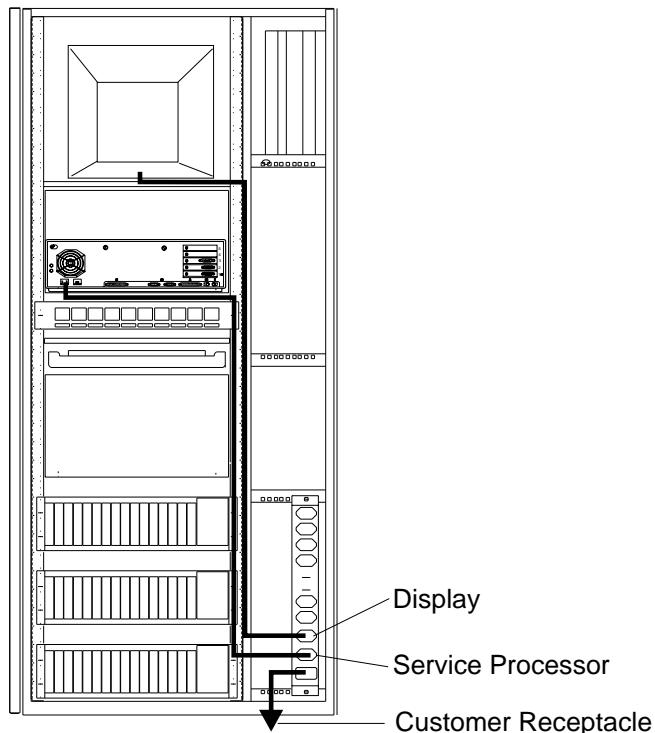

Figure 1-87. Power Cords Connection to a ac Outlet Distribution Box
18. ____ Route and connect the power cords (PN 58G5783) from the display and the service processor unit to the ac outlet distribution box as shown in Figure 1-87. Secure these cables using tie clamps along the frame, then go to step 20 on page 1-78.